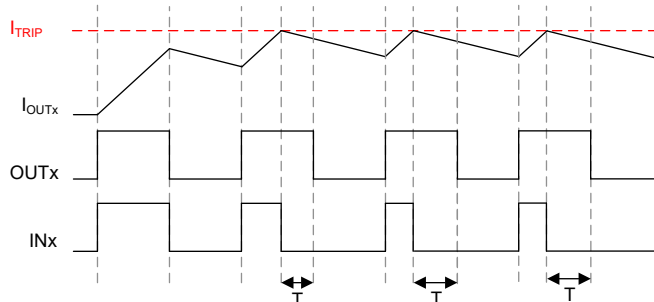

图 7-6. Inductive Load Connected to ground, Cycle-by-cycle control
- Loads can also be controlled using the cycle-by-cycle method. When  $INx = 1$ , the current through the load builds up; and when  $INx = 0$ , the current through the load decays. By properly choosing the duty cycle of the  $INx$  pulse, current can be regulated to a target value. Various such scenarios are shown in 图 7-5 and 图 7-6.